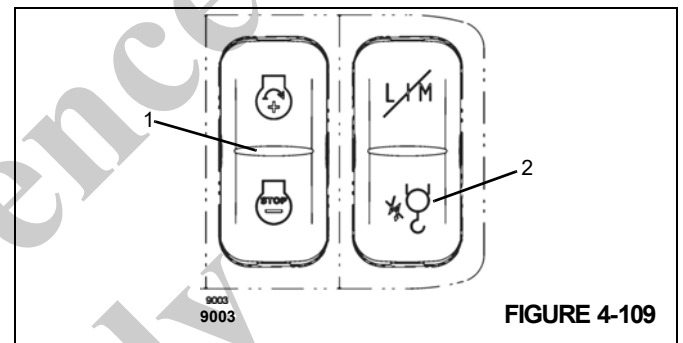

FIGURE 4-109
You can set the desired engine speed (idling speed) with the button located on the overhead control panel (1), (Figure 4-109). Refer to *Boom Extension Assist*, page 3-127.
Press the button located on the overhead control panel (2), (Figure 4-109) and keep it depressed – the anti two-block switch is overridden.